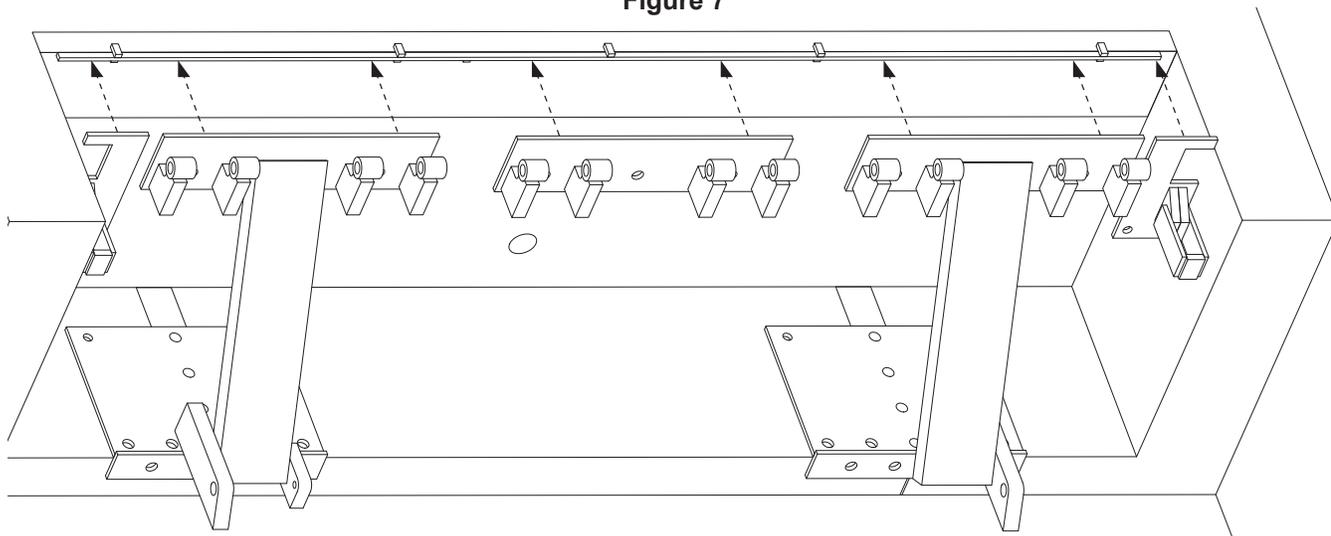

Figure 8
4. Position rear hinge weldments and storage prop pocket weldments against locator bar weldments per the layout drawings provided by Systems, LLC. See Figure 8. When in place, apply heavy tack weld to hinge weldments.